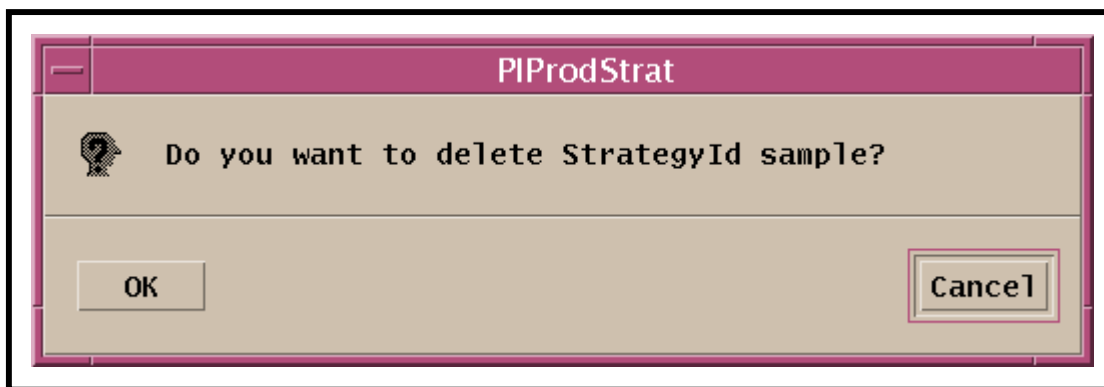

Figure 44. Production Strategy Deletion Confirmation Dialogue Box
- A production strategy deletion confirmation dialogue box (Figure 44) is displayed requesting confirmation of the decision to delete the production strategy.